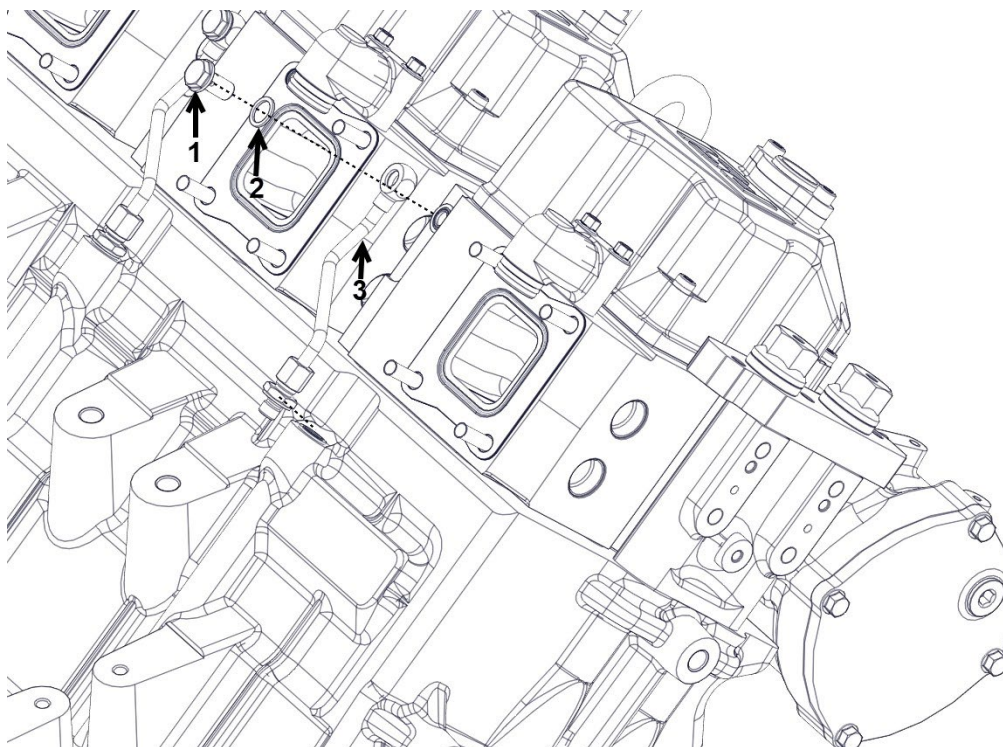

Figure 85. Cylinder Head Oil Pipe Assembly
1. Loosen and remove the bolt and washer (Figure 85, Item 1 & 2).
2. Remove the oil pipe (Figure 85, Item 3)
2. Insert the oil pipe (Figure 85, Item 3).
3. Torque down the banjo bolt and washer to 15 ft/lb (Figure 85, Item 1 & 2).